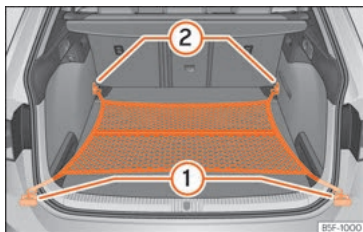

Fig. 189 In the boot: net bag hooked up at floor level (LEON ST model).
- As applicable, lift the front fastening rings » Fig. 189 ②.
- Secure the net hooks to the fastening rings ② » ⚠. The bag zip should be facing upwards.
- Secure the net hooks to the fastening rings ①.